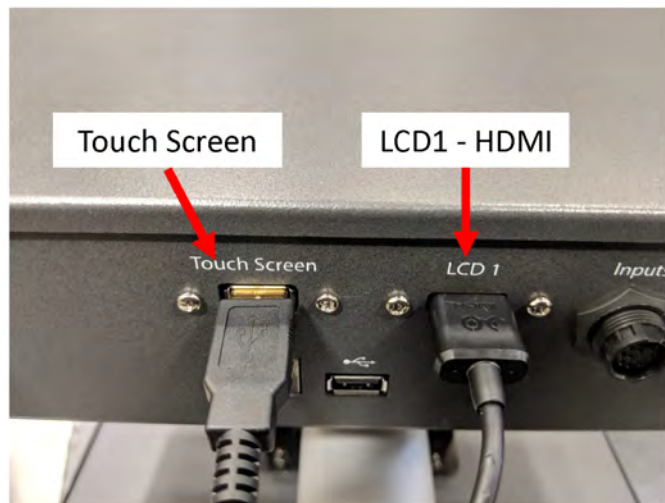

Figure 16-37 Touch Screen and LCD1 Connector Locations
1. Locate the Touch Screen and LCD1 connectors at the bottom of the MCU enclosure (refer to Figure 16-37).